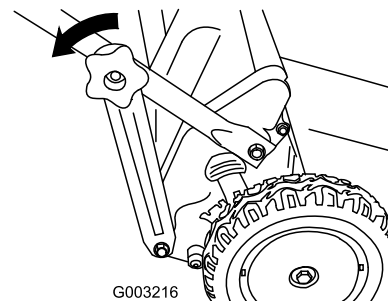

Figure 36
1. Remove the lower handle knobs (Figure 36).
2. Detach the lower handle brackets from the lower end of both handle sides (Figure 36).